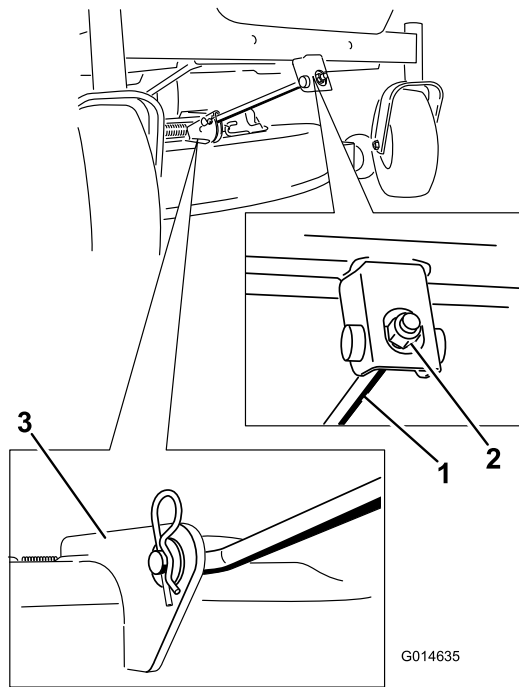

Figure 53
4. Remove the hairpin cotter from the front support rod and remove the rod from the deck bracket (Figure 53). Carefully lower the front of the mower deck to the ground.
6. Attach the front support rod to the mower deck with the clevis pin and hairpin cotter (Figure 53).